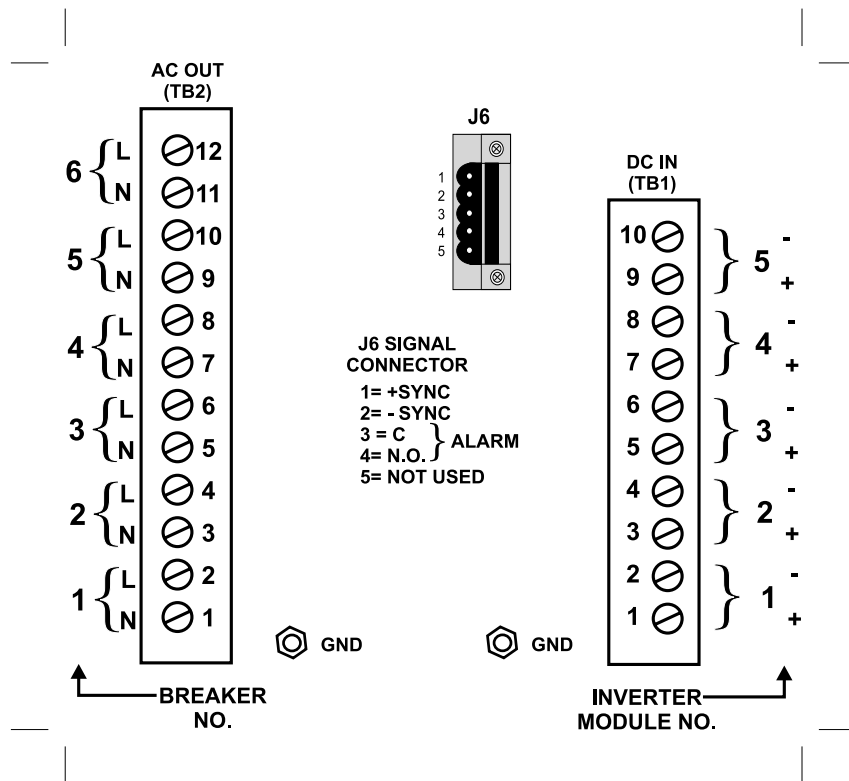

Figure 4. Rear Input, Output and Signal Connections
7.4 The rear view of the shelf shows the AC load connection terminals on the left side, a five-pin signal connector at the top and the DC input connection terminals on the right side. Also at the bottom of the shelf on both sides are chassis ground terminals, 10-32 studs. See also Figure 4.
10.1 Input Voltage. This inverter system operates off a nominal 48VDC input source which may be a battery or other DC source. The input voltage range is 42 to 56VDC. Input connections are on the back of the system to TB1 on the right side. See Figure 4. The screw terminals have side entry. The DC inputs are both floating.
10.2 Output Voltage. The output voltage for an IX12.5 is 115 or 230VAC at full load, 120 or 240VAC at no load. The outputs on the back of the unit at TB2 are also shown in Figure 4. The TB2 connections have side entry. Frequency is 50 or 60Hz, $\pm 0.1\%$. The output voltage has total harmonic distortion of less than 2.0%. The load current crest factor is 2.8 to 1, and surge capability is up to 300%. The output will drive reactive loads with up
10.6 Grounding. For the suffix E models of both 115VAC and 230VAC inverter modules INV2500-HS, the AC neutral output is floating. For both models of the shelf, the AC neutral output is floating. The neutral output of the Gravitas IX12.5 must be appropriately connected to safety ground. For the two INV2500-HS 115VAC modules which are not suffix E, the AC neutral output is internally connected to chassis ground. Refer to the product tables in paragraph 2.2. The shelf ground terminals are two 10-32 studs on the bottom right and left sides of the rear of the shelf. Shelf ground must be connected to system safety ground. See Figure 4.
10.8 Relay Alarm Contacts. These contacts at pins 3 and 4 of J6 are normally open (N.O.) for normal operation of the system. See Figure 4 for connections. A mating connector (with screw connections) to J6 is provided with the shelf. If any of the inverter modules fail, the contacts N.O. and C close. The failed module can be ascertained from the LED indicators on the front panel. There is no connection to pin 5.
- 12.3** Connect the input battery or other DC source to the DC + and - input terminals of the shelf for inverter module no. 1 (terminals 1 and 2 for + and - respectively). See Figure 4. Connect the inverter system ground (10-32 studs) to the system ground. Make sure that the correct polarity is used and make sure the connections are clean and firm. Reversed input polarity could cause damage to the inverter module. Insert the inverter module into position 1 of the shelf (leftmost position on front).
- 12.4** To power up the inverter module, turn the DC input circuit breaker (top) on by moving the toggle to the right position. The fans and Input OK and Sync OK LEDs should come on followed by the Output OK LED approximately four seconds later. After the Output OK LED is on, turn on the AC output breaker (bottom) by moving the toggle to the right position. Turn AC output breaker no. 1 on. Check the output AC voltage across load terminals 1 and 2 (see Fig. 4) with a digital AC voltmeter. The voltage should be approximately 120 or 240VAC.